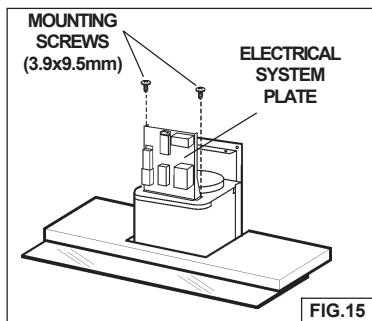

FIG.15
4. Mount the electrical system plate attaching it with (3) 3.9x9.5 mounting screws. Fig. 15.